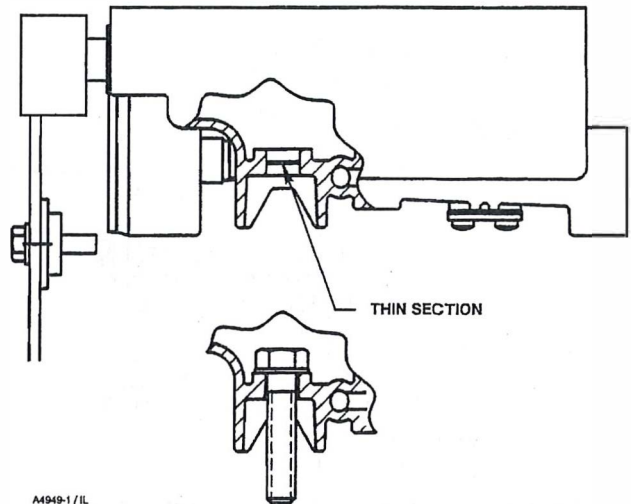
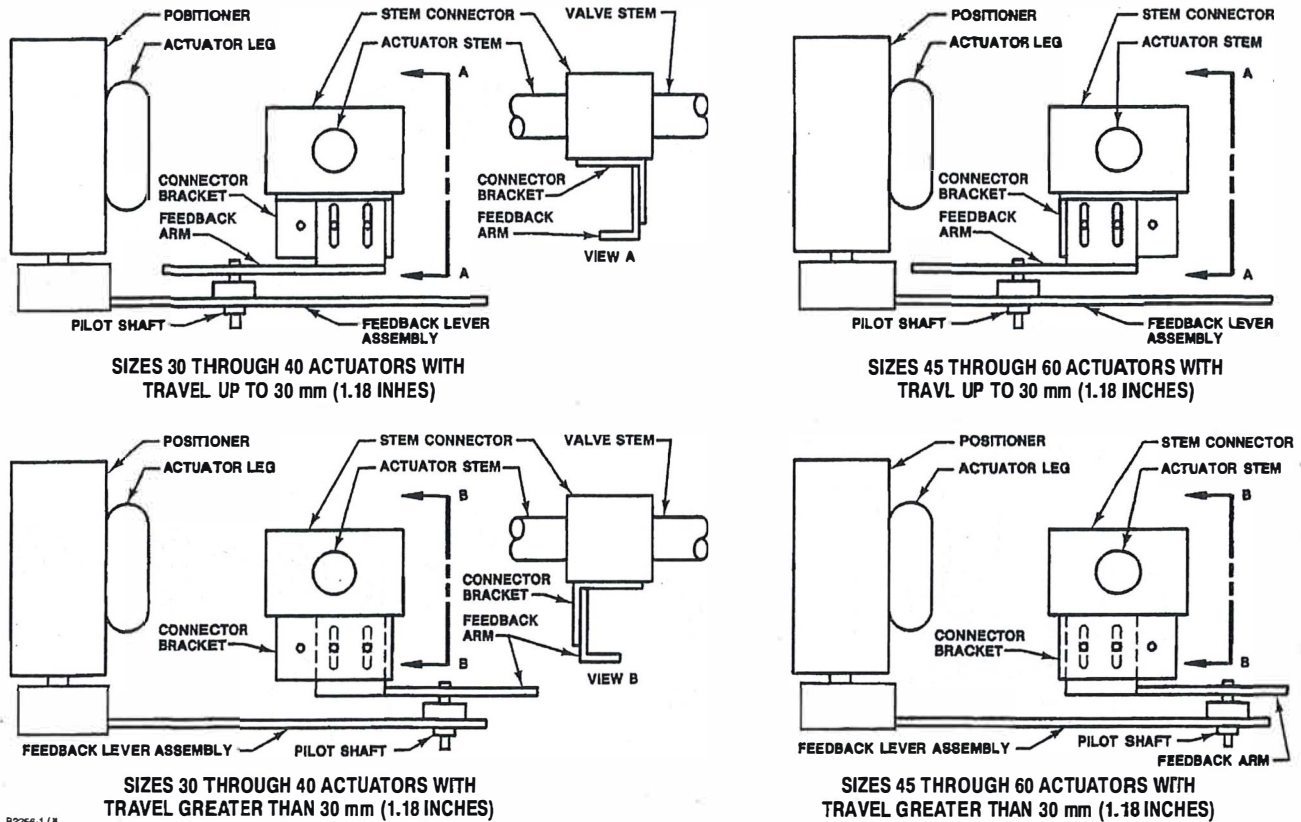

Figure 5. Actuator Center-Bolt Mounting
Figure 8. Feedback Arm Orientation with Positioner Mounted on Type 657 and 667 Actuators
a. As shown in figure 5, a thin knockout section is cast across the mounting hole in the housing. Check to make certain this knockout section has been removed. If the knockout section has not been removed, use a punch to knock it out.
3. Unscrew the two machine screws (key 24), and remove the positioner cover (key 21).
4. As shown in figure 5, a thin knockout section is cast across the mounting hole in the housing. Check to make certain this knockout section has been removed. If the knockout section has not been removed, use a punch to knock it out.
3. Refer to figure 8 for the feedback arm (key 88) location with respect to the connector bracket (key 87). Position the feedback arm so that the pilot shaft (key 19A) will operate correctly in the slot of the feedback arm. For actuator travels between 19 and 30 mm (0.75 and 1.18 inches), position the feedback arm so that the long portion of the feedback arm slot, when fastened to the connector bracket, is closest to the positioner (see figure 8). For travels greater than 30 mm (1.18 inches) reverse the feedback arm so the slot in the feedback arm is opposite the positioner (see figure 8).
4. Attach the feedback arm (key 88) to the connector bracket (key 87) using machine screws, washers and hex nuts (keys 91, 92 and 93), but do not tighten the hex nuts.
5. Unscrew the two machine screws (key 24), and remove the positioner cover (key 21).
6. As shown in figure 5, a thin knockout section is cast across the mounting hole in the housing. Check to make certain that this knockout section has been removed. If the knockout section has not been removed, use a punch to knock it out.